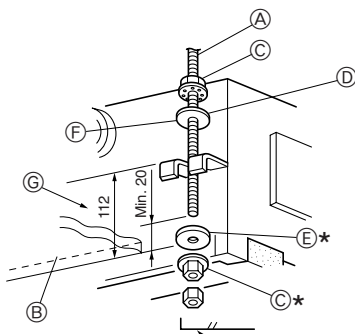
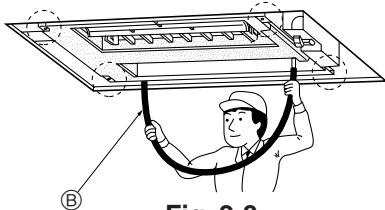

Fig. 2-7
Fig. 2-8
1. Thread washers ① ② (supplied) and their nuts (procured locally) onto the suspension bolt in advance. (Fig. 2-7)
- * Do this in the following order (from the top): nut, insulated washer ②, washer without insulation ①, two nuts.
- * Position insulated washer ② with the insulated surface pointing down, as in the figure.
2. Lift the unit into place, aligned properly with the suspension bolt. Pass the bracket between washers ① and ②, which are already in place, and secure it. Do the same in all four places.
- Ⓓ Washer ② (with insulation)
- Ⓔ Washer ①
4. Check that the four corners are all level, using a spirit level or clear plastic tubing with water in it. (Fig. 2-8)